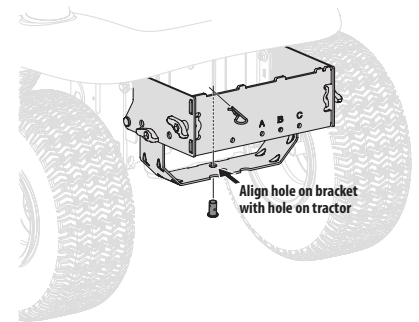

Figure 7
3. Install the clevis pin (711-0309A) from hardware pack 689-02364 into the tractor's hitch and secure with cotter pin (714-0117). See Figure 7.